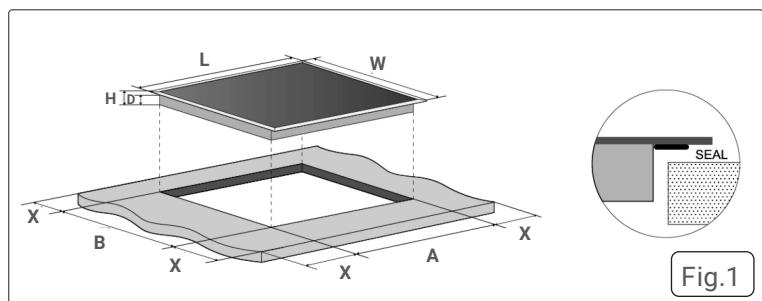
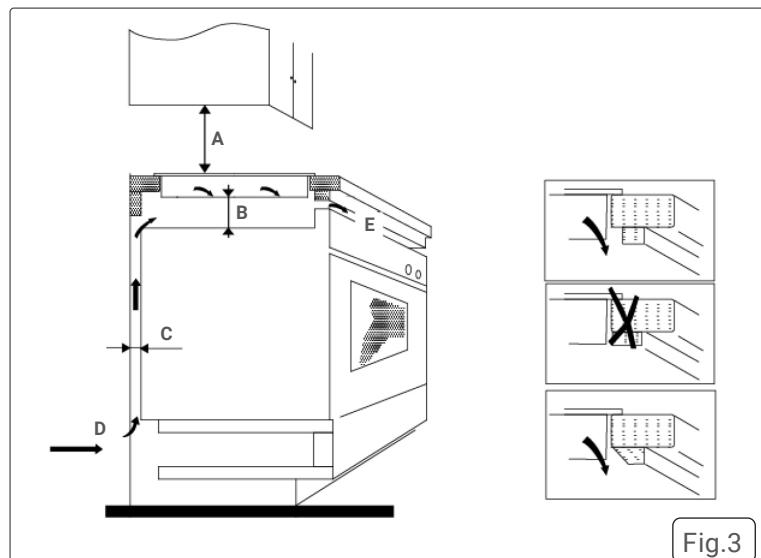

Fig.1
Fig.3
- POSITIONING THE APPLIANCE SEE FIG.1 & FIG.2**
- The cooker hob is designed for installation on a work surface. Ensure that a minimum clearance of 50 mm is maintained around the cut-out to allow for proper ventilation, heat dissipation, and safe operation. The work surface should be level, stable, and made of heat-resistant material. Before installation, verify that all adjacent surfaces, cabinetry, and walls comply with the recommended safety distances specified in the manufacturer's guidelines see fig.1, fig.3. Proper installation ensures optimal performance, safety, and longevity of the appliance.
- To ensure a correct ventilation of the hob please comply with the dimensions shown in fig.3.
- Minimum ventilation clearance requirements are 760mm above the hob, 5mm below the underside and 2cm from the rear (fig.3).
- IMPORTANT:** There are ventilation spaces around the outside of the hob. **YOU MUST** ensure that these spaces are not blocked by the work top, when you put the hob into position (see fig.3).